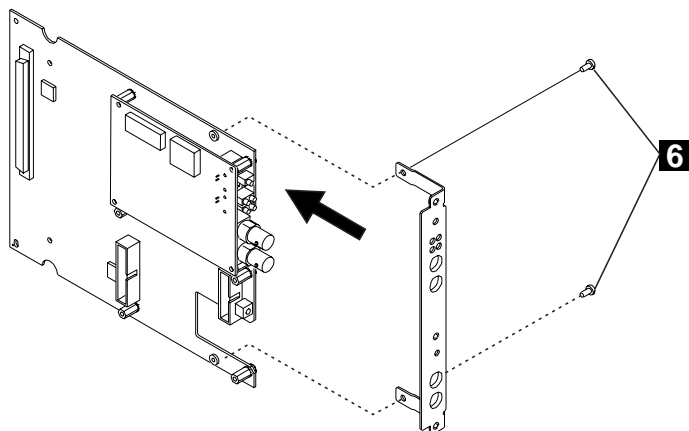

Figure 16. Attaching the Faceplate Bracket
- 5 Install the VPD PROM chip (5) on the motherboard, making sure that the notch is aligned with the front of the module.
- 6 Attach the faceplate bracket to the motherboard using the two screws (6 in Figure 16) from the old dummy bracket.